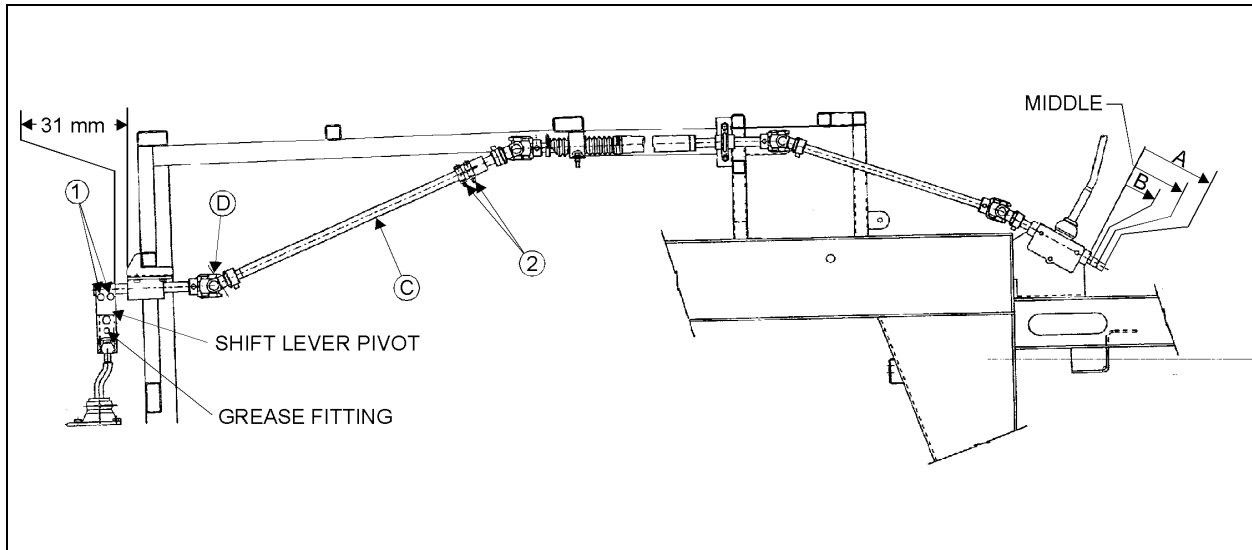

FIGURE 5: GEAR SHIFT LINKAGE
2. Loosen nuts (1, Fig. 5) and nuts (2, Fig. 5).
- a. Put the shifter lever in first gear and measure the distance A on the gear shaft (Fig. 5).
- b. Put the shifter lever in second gear and measure the distance B on the gear shaft (Fig. 5).
Grease with good quality lithium-base grease NLGI No.1 (Fig. 5):
- a. Remove the two bolts that secure the coupling lever to the shift rod (1, Fig. 5).